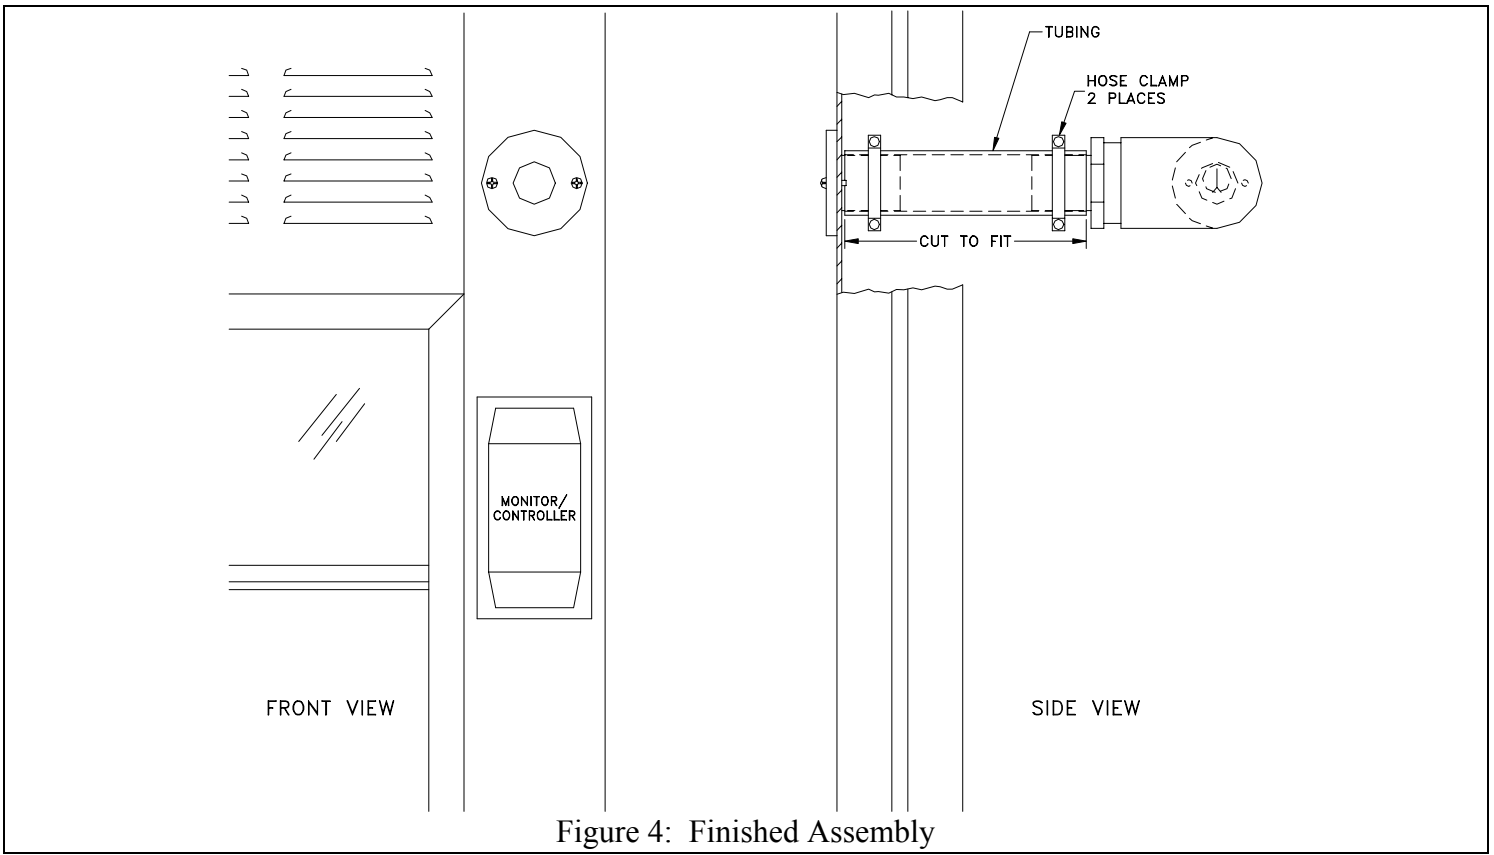

Figure 4: Finished Assembly
- Step 4: Cut tubing to fit between the mounting flange and the elbow. Slide 2 hose clamps onto tubing. Remove the elbow and insert one end of tubing onto the elbow. Push other end of tubing onto mounting flange (Figure 4). Secure tubing by tightening hose clamps.